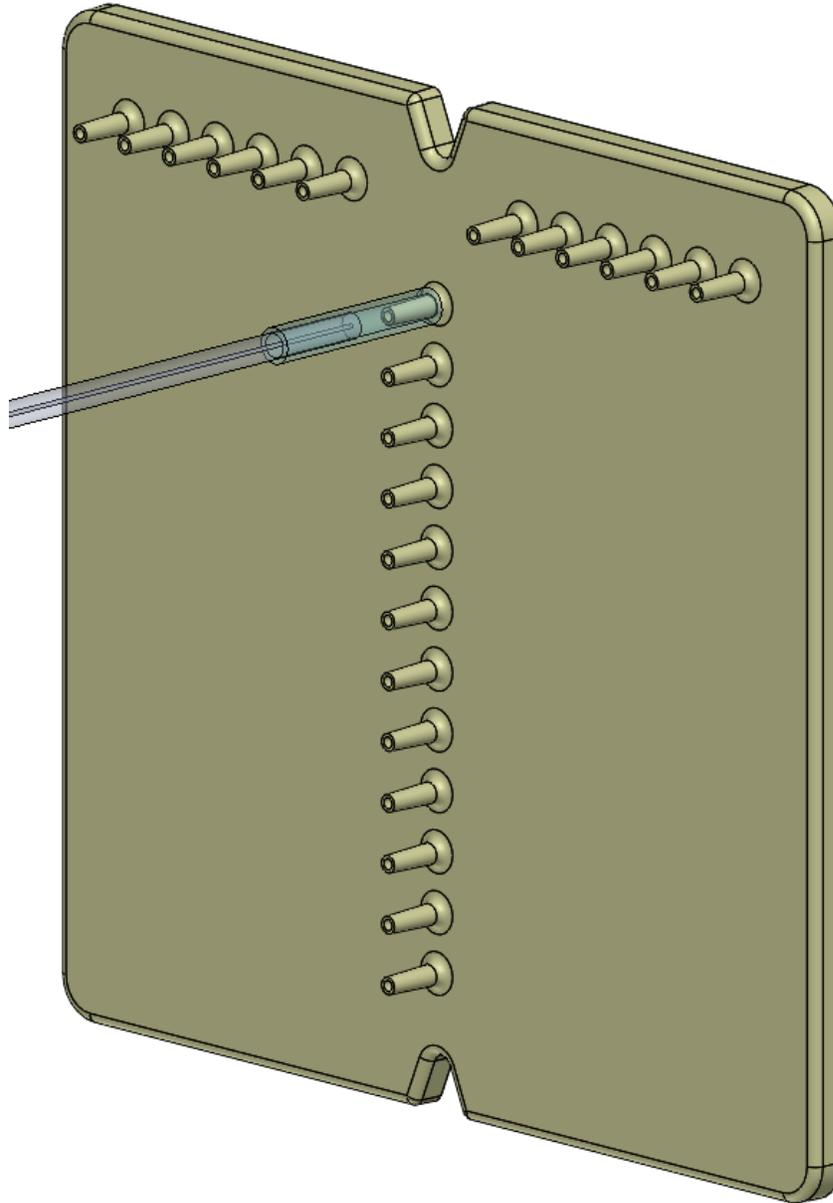

Figure 7. Pump tubing connection
4. Connecting the pump tubing: connect the end terminated in a silicone tubing segment (see Figure 7) of the pump tubing to position 1 on the manifold. Ensure that about 5mm of tubing is inserted over the fitting. The tubing segment that connects to the manifold output is made of